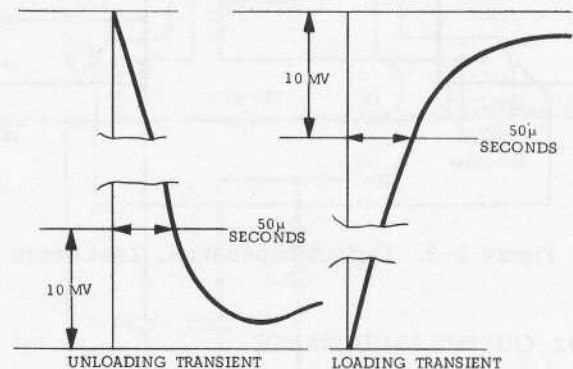

Figure 5-8. Transient Response, Waveforms
f. Adjust 25K potentiometer until a stable display is obtained on oscilloscope. Waveform should be within the tolerances shown in Figure 5-8 (output should return to within 10 mv of original value in less than 50 microseconds).